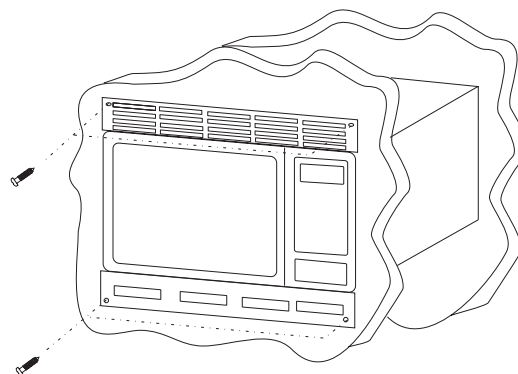

FIG. 5
5. Screw the upper and lower trim onto the cabinet using four 16mm screws. See FIG. 5.